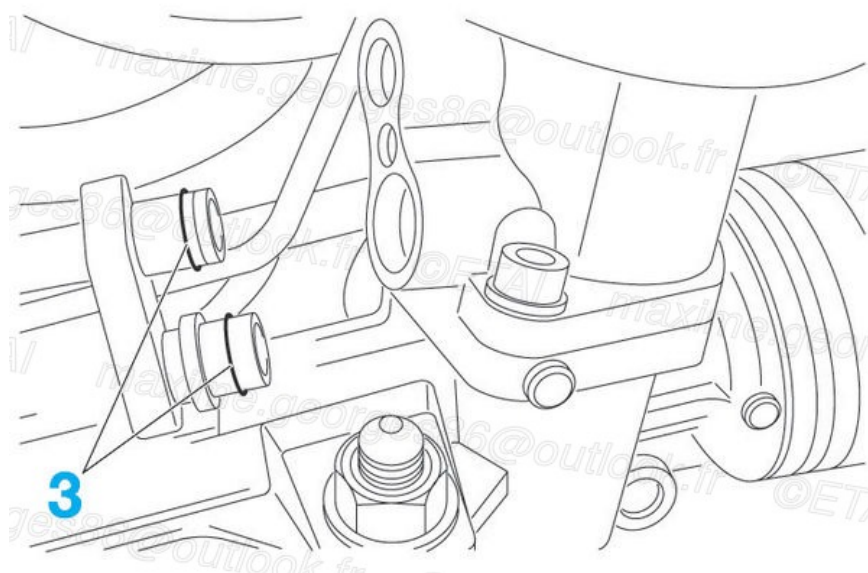

Fig.21
- Poser des joints (3) neufs (Fig.21) (/media/RTA/RTA_714/RTA714A-006-021X.jpg).